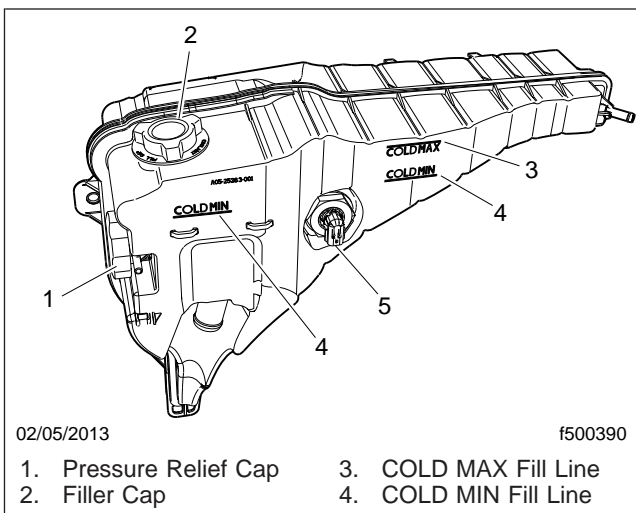

Fig. 11.7, Coolant Surge Tank
5. Check the engine coolant level in the radiator surge tank. See Fig. 11.7.